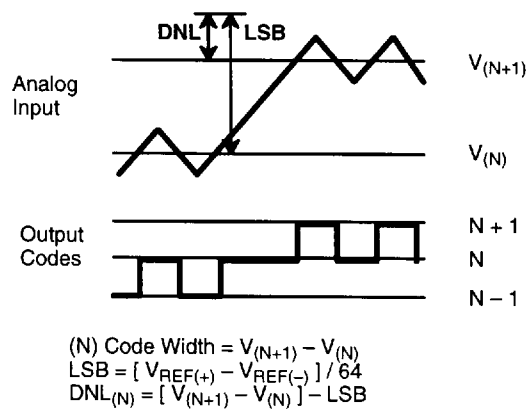
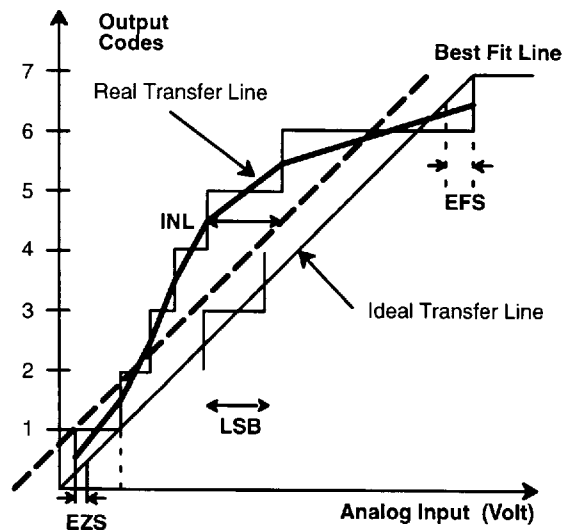

Figure 3. DNL Measurement
Figure 4. INL Error Calculation
- 1 Tester measures code transitions by dithering the voltage of the analog input (V_{IN}). The difference between the measured and the ideal code width ($V_{REF}/64$) is the DNL error (Figure 3.). The INL error is the maximum distance (in LSBs) from the Best Fit Line to any transition voltage (Figure 4.). Accuracy is a function of the sampling rate (F_S).